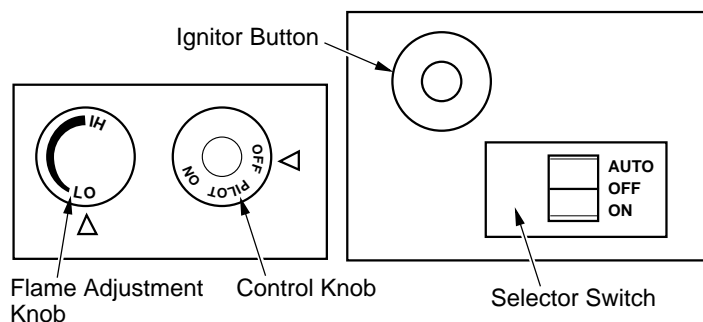

Figure 38 - Control Knob and Ignitor Button Location (Shown as Supplied, No Control Options)
5. Wait five (5) minutes to clear out any gas. Then smell for gas, including near the floor. If you smell gas, **STOP!** Follow "B" in the safety information, column 1. If you don't smell gas, go to the next step.
6. Press in and turn control knob counterclockwise  to the PILOT position. Press in control knob for five (5) seconds (see Figure 38).